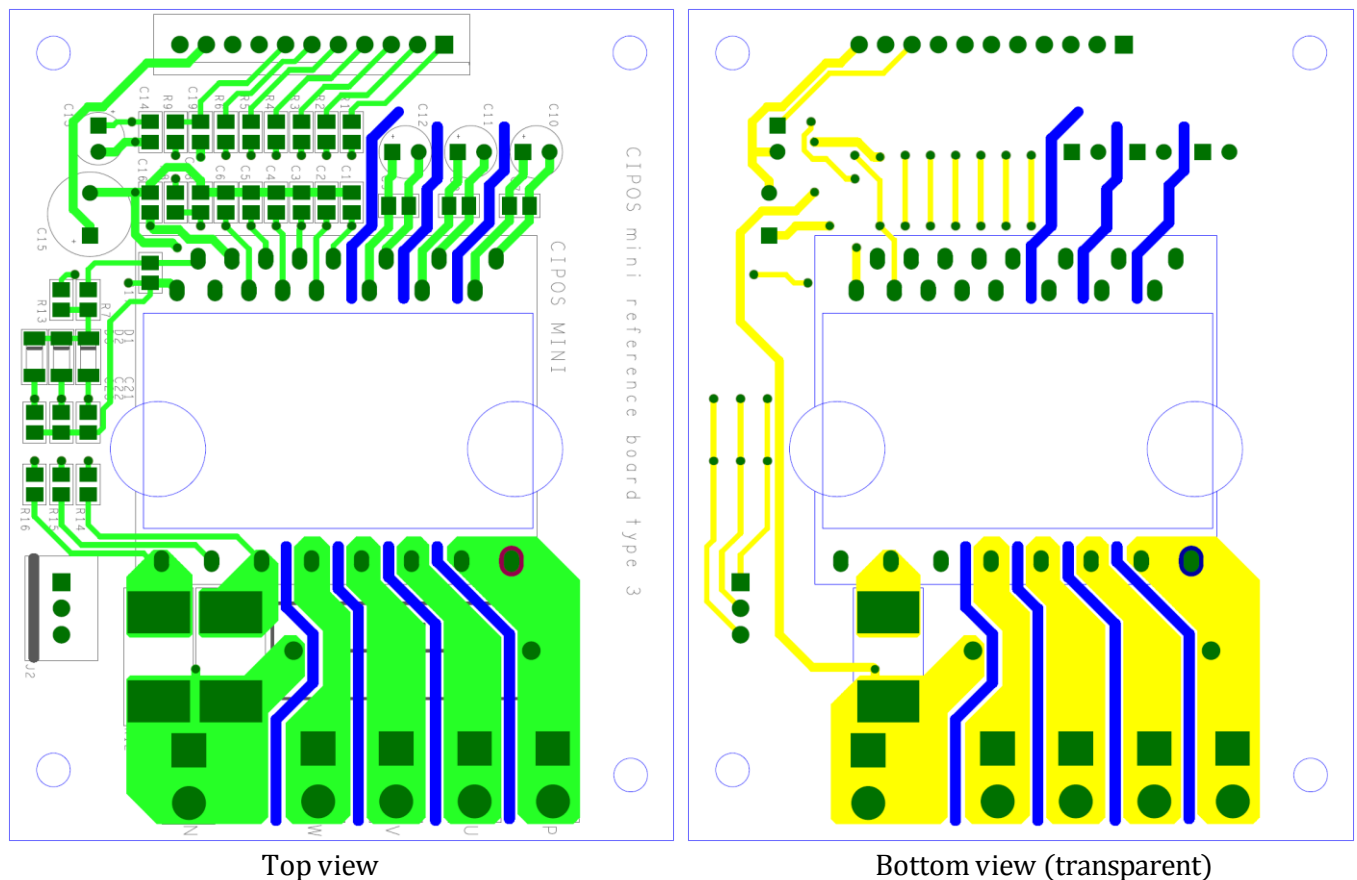

Figure 10 Layout of reference board type 3 for 3-shunt resistor
5. In order to accurately detect the voltage of the current sensing resistor, both sensing and ground patterns should be connected at the pins of the current sensing resistor and should not be overlapped with any patterns for the load current, as shown in Figure 10.
Ver1.1, Aug.03.2016 Page 2 Page 12 All pages All pages	Figure 1 Reference board pictures replaced Figure 10 Reference board layout pictures replaced Minor typo fixed Template changed